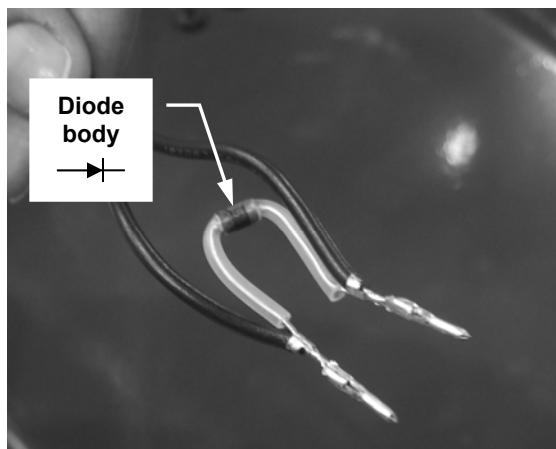

FIGURE 1
1. Locate line at one end of diode body. The pin adjacent to line will be connected to the white wire of the lift harness. Refer to Figure 1, 2 and 3.
WARNING!!! For K-Series K2012A 24-volt wheelchair lifts manufactured prior June 2013, remove diode from harness shown in Figure 1. Failure to remove diode may cause damage to the lift electronics.